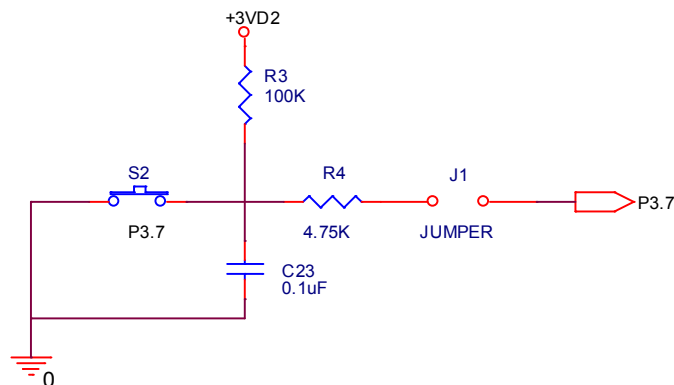

Fig. 4.9 S2 is connected to pin P3.7
9. Modify the program so that the LED turns on when the S2 switch (on the target board) is pressed and it turns off when the switch is not pressed. The electrical diagram in Fig 4.9 presents the connection of the switch to the microcontroller.